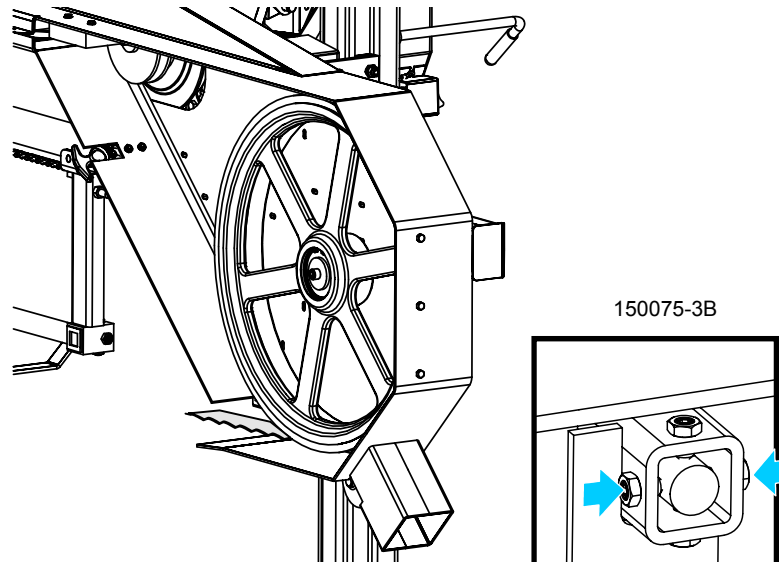

**FIG. 5-8**
**See Figure 5-8.** Use the cant control adjustment to adjust the idle-side blade wheel. If the blade is too far forward on the wheel, turn the cant control counterclockwise. If it is too far back on the wheel, turn the cant control clockwise.